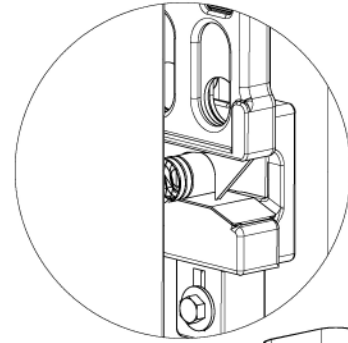

Figure 1
Step 1: Swing the gate with the mounted latch pin into position with the latch post and position the latch on the post as shown in Figure 1. Position the latch so the latch pin is in the latch box slot as shown and mark the latch post at the center of the top mounting slot of the latch box for drilling.